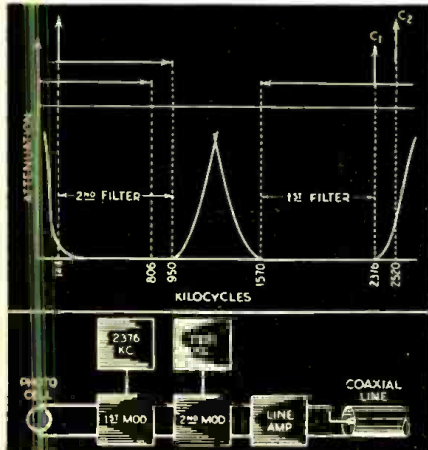
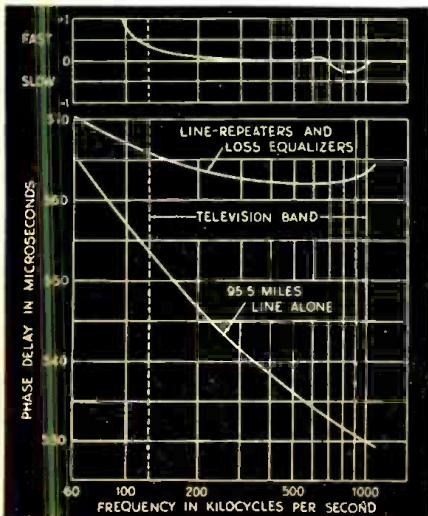

Fig. 1. How the frequency range of the signal was raised 100 kc. higher by double modulation.
Fig. 2. Phase delay curves of the N.Y.C. to Philadelphia coaxial television circuit.
In the method which has just been demonstrated at Philadelphia a single sideband is obtained by (1) double modulation and (2) precise filtering; and this sideband is placed to avoid the first 100 kilocycles of the frequency range of the cable system where transmission is unsatisfactory and the various components cannot easily be amplified (see Fig. 1). There was also introduced compensation for the different velocities of transmission (phase delay, see Fig. 2), of different frequency components. The result is the delivery of an essentially perfect replica of the almost infinitely complex current produced at the sending end by the scanning equipment.
Motion picture film was used since it provides a signal which can be repeated over and over again for the purpose of the demonstration. The film moved uniformly past a picture gate where lenses in a large rotating disk swept across it a light beam 3/1,000-inch square. The resulting current contained frequencies between zero and about 800 kc. Before transmission, it was raised by modulation about 100 kc. higher. See Fig. 1.